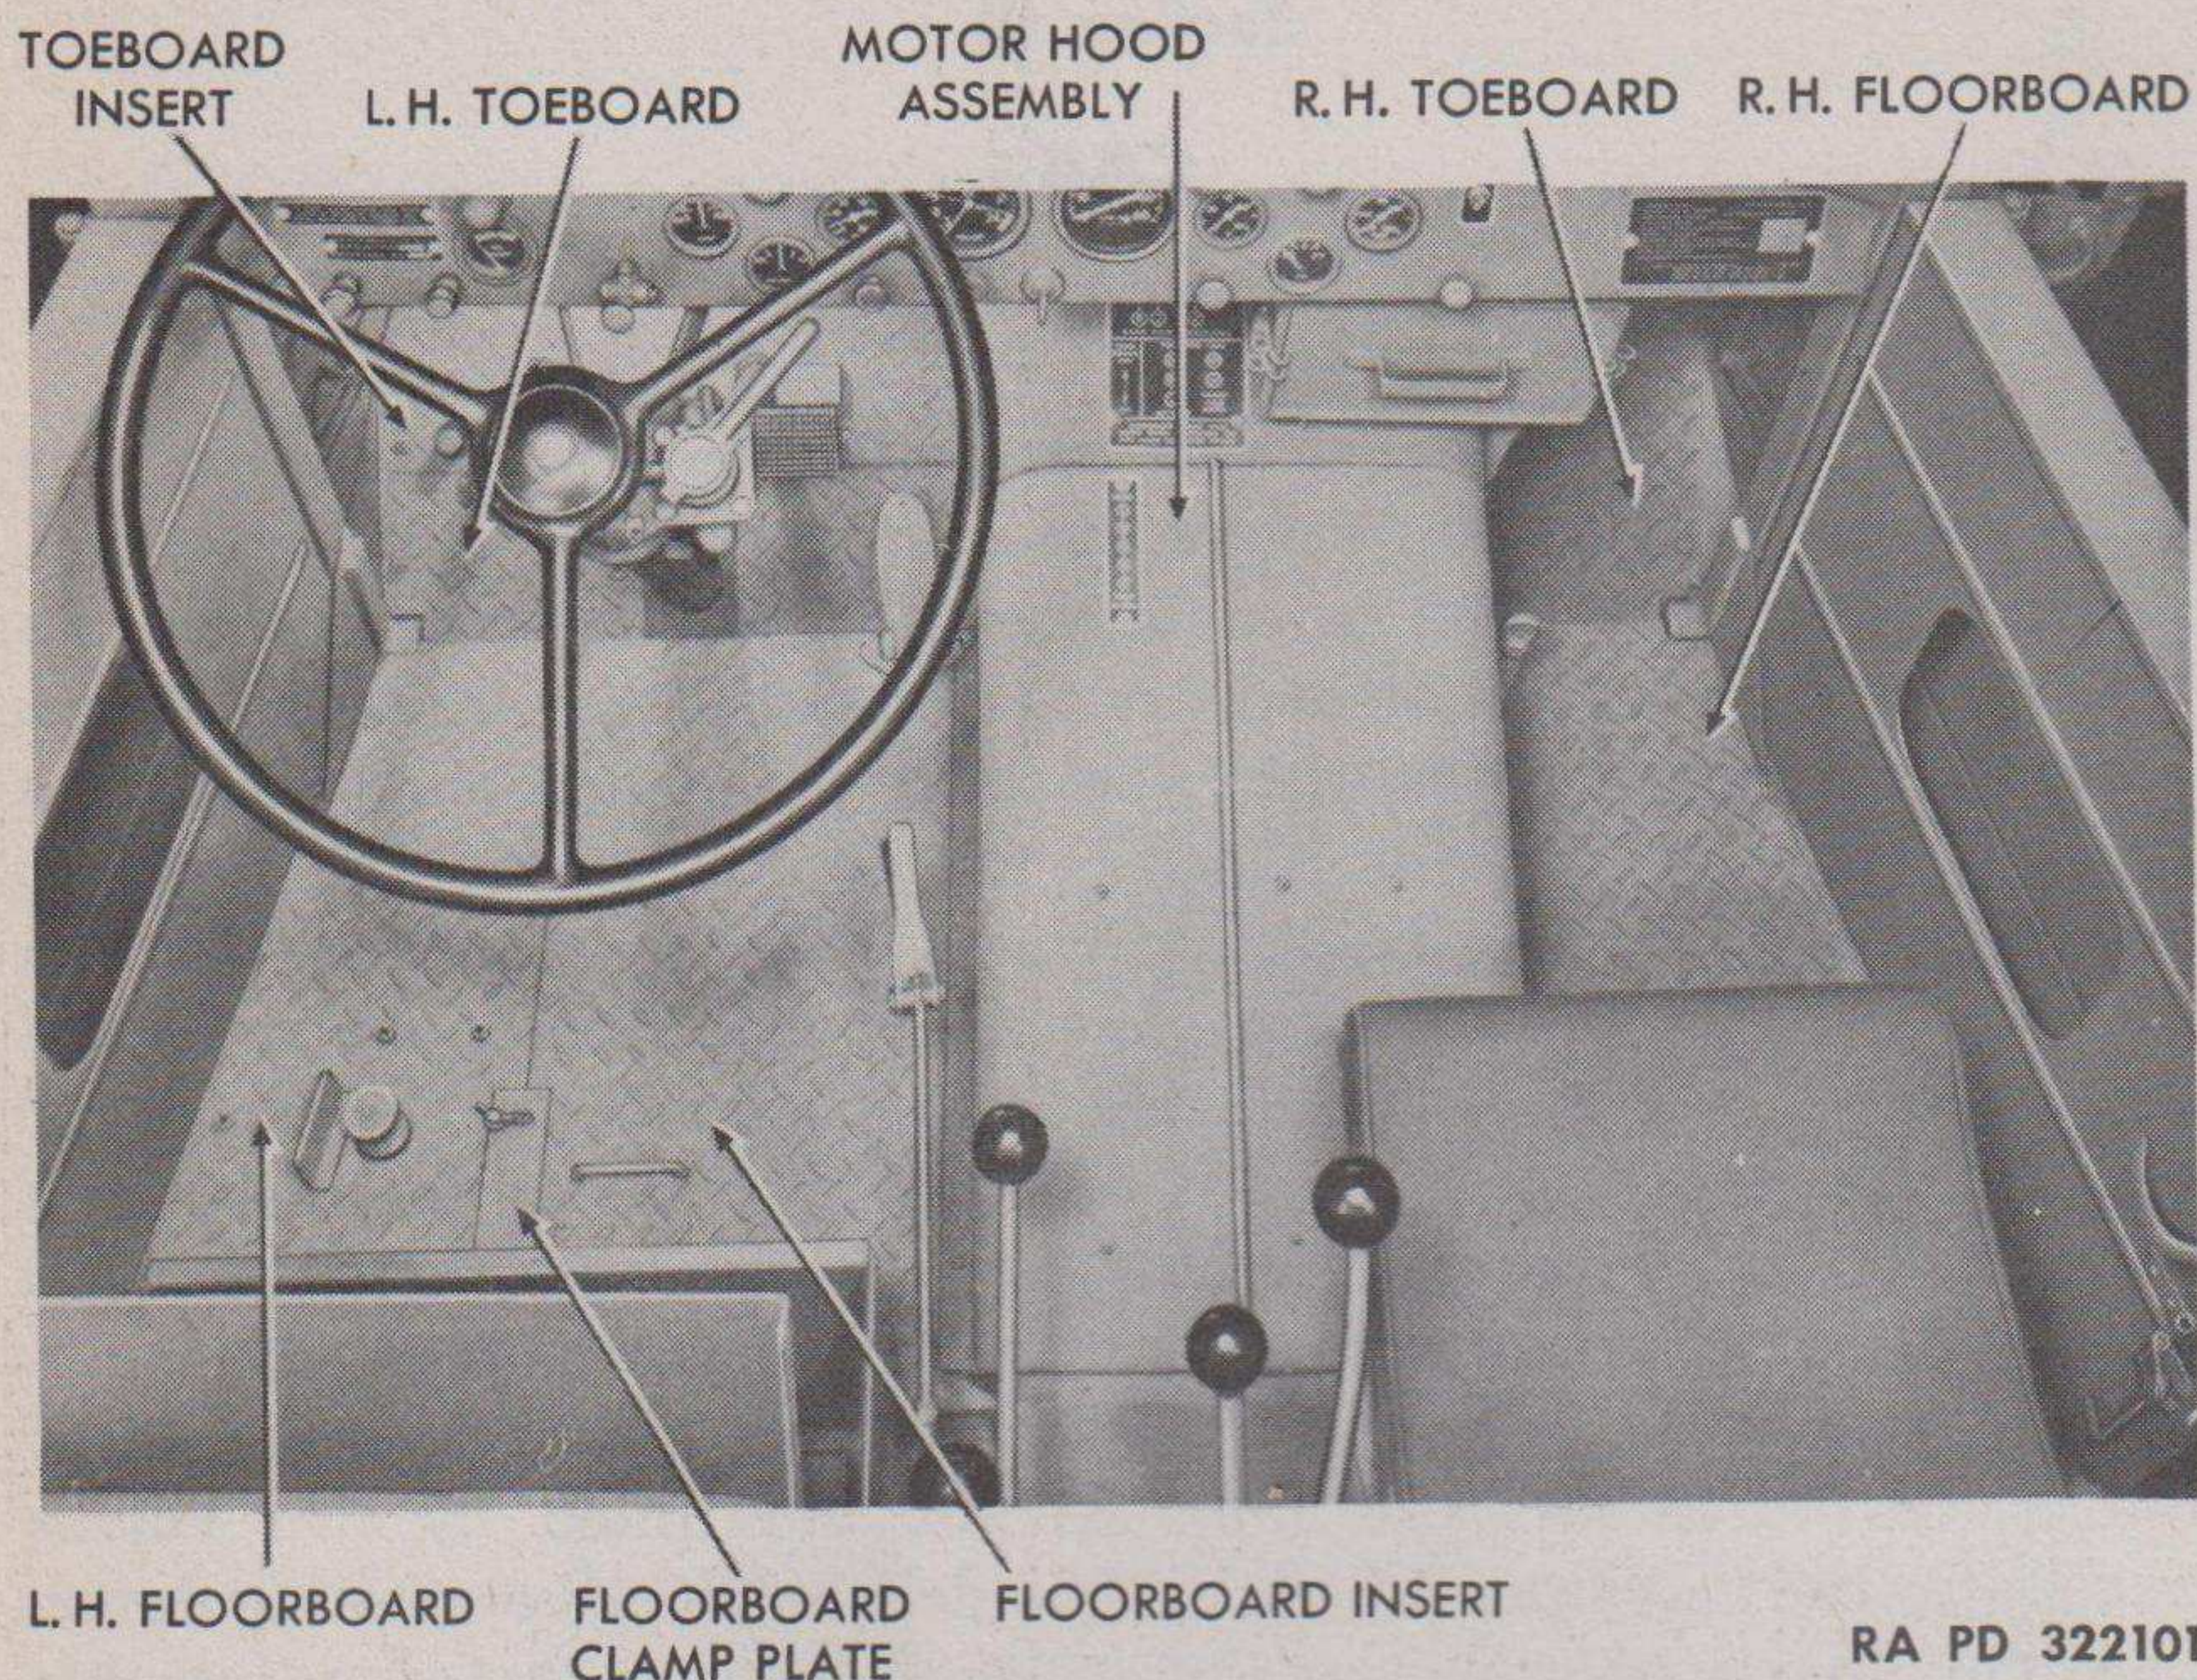

Figure 72 — Floorboards Installed
d. **Remove Toeboards and Floorboards** (fig. 72). Remove the screws, flat washers, and lock washers which secure left side of engine hood to floorboard frame. Disengage the two latches on right-hand side of hood. Lift out engine hood. Remove the screws, flat washers, internal-toothed lock washers, and lock washers which secure floorboards and toeboards to cab frame. Remove screws, flat washers, and internal-toothed lock washers which secure gearshift finish plate. Lift out gearshift finish plate.